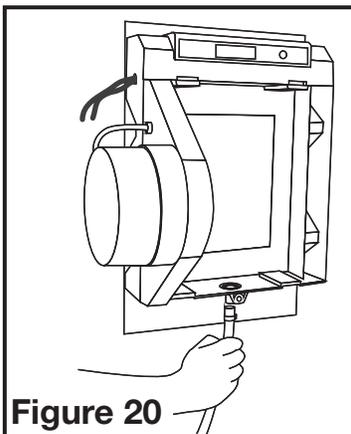

Figure 20
5. YOU MUST RUN A DRAINAGE TUBE FROM THIS UNIT. Select a convenient location for running the 1/2" drainage tube, 15 ft supplied. Before you connect the tubing to the drain fitting on the bottom of the unit, slip the 1/2" hose clamp (supplied) over the tubing. Push the tubing over the fitting and secure in place with the hose clamp (Figure 20).